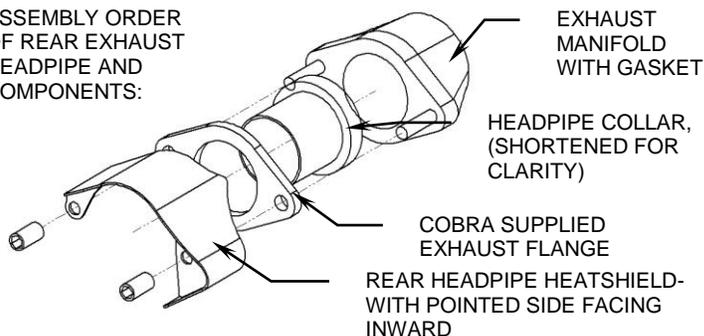

FIGURE 6
11. Install the front and rear headpipe-muffler assemblies onto the motorcycle using the supplied flanges, stock bolts and nuts. NOTE: On the rear headpipe be sure to install the stock flange cover as shown in Figure 6. Make sure the pipes are parallel to each other. **DO NOT TIGHTEN.**